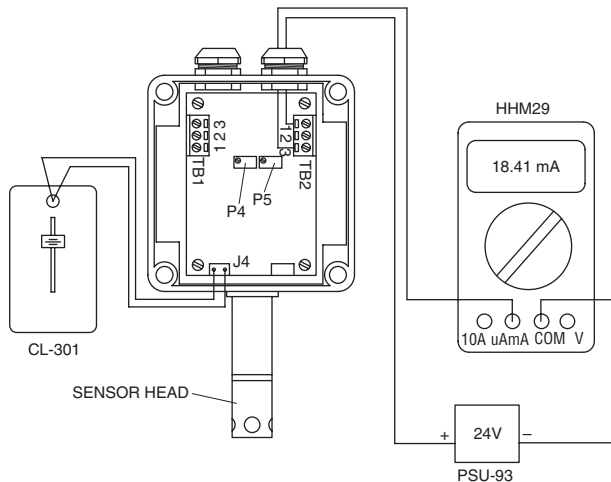

Figure 7 - HX93AC Calibration Procedure
2. Connect the power supply and multimeter as shown in the figure 7.
13. Connect the power supply and multimeter as shown in the figure 7.